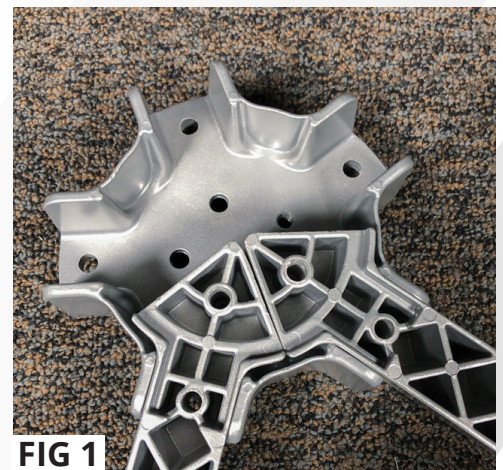
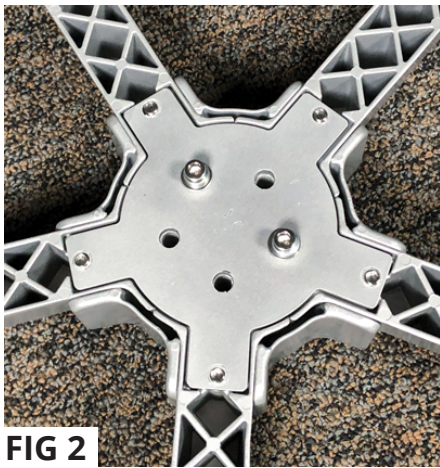

FIG 1
FIG 2
1) Start with the Upper and Lower Connector and the 5 legs. You will want to note where the two raised holes are and then turn the Upper connector over and place the legs inside (See FIG 1). Take the Lower connector and place on top of the legs. You may need an extra hand or two to hold the legs to thread the bolts through the Lower connector. All the legs must be under the Lower connector before putting the bolts in. You will need to make sure the bolts, M8 x 55mm, are not too tight. (FIG 2)